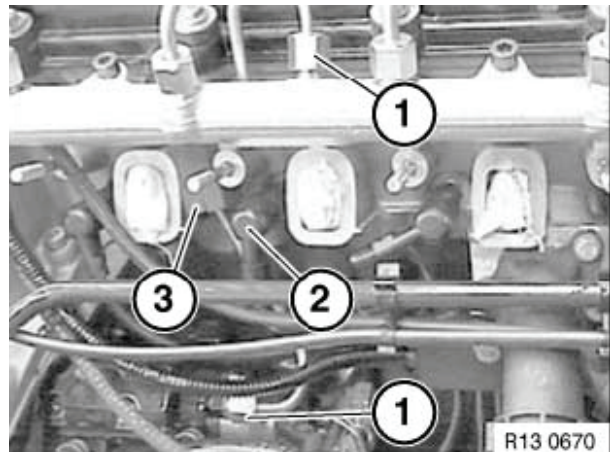

Figure 6-18
6. If removing high-pressure line between high-pressure pump and fuel rail (**Figure 6-18, (1)**), disconnect glow plug connector (if equipped) (**Figure 6-18, (2)**).
4BY Engines: Rubber mount (**Figure 6-18, (3)**) will be removed with the line.